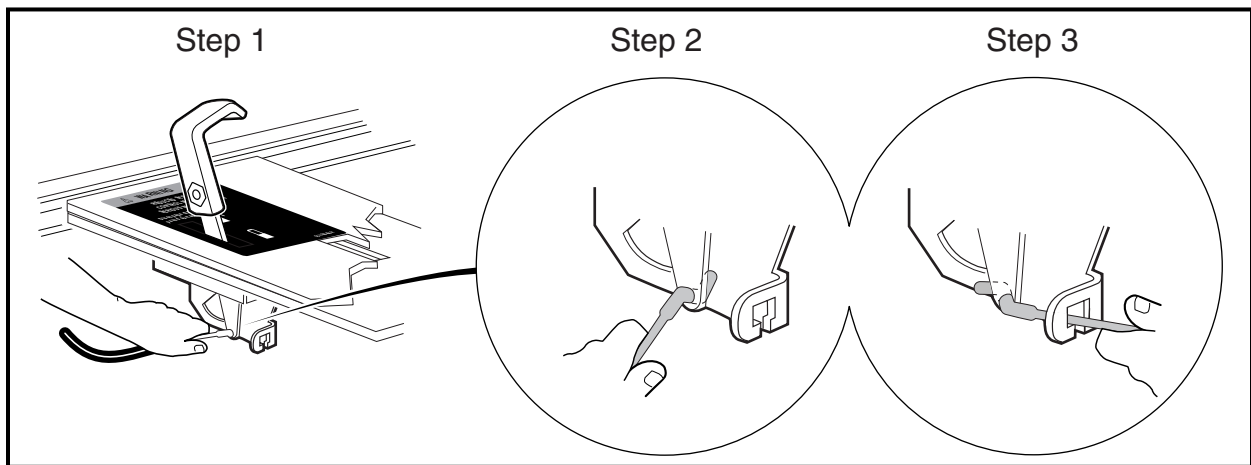

Figure 16-59 Differential Cable End Installation
- 34.1. Connect the end of the differential lock cable to the differential lock handle (Step 1) (**Figure 16-59, Page 16-23**).
- 5.1. Connect the end of the differential lock cable to the differential lock handle (Step 1) (**Figure 16-59, Page 16-23**).